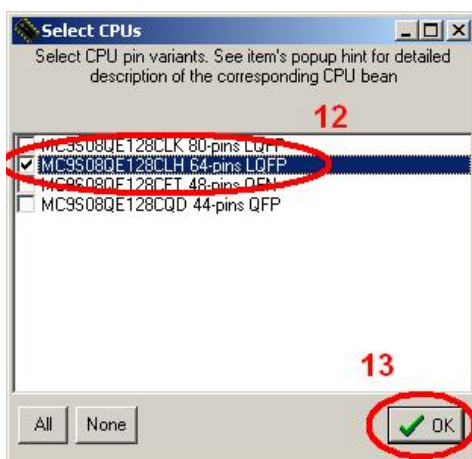

Figure 6. Select CPUs Dialog
12. Select the MCU package you want. This example software uses the MC9S08QE128CLH 64-pins LQFP, this is used by the DEMOQE128 board. See Figure 6.